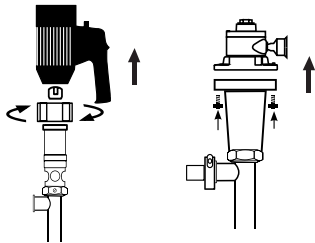

Figure 6
1. Remove motor from pump tube (see Figures 6 & 7).